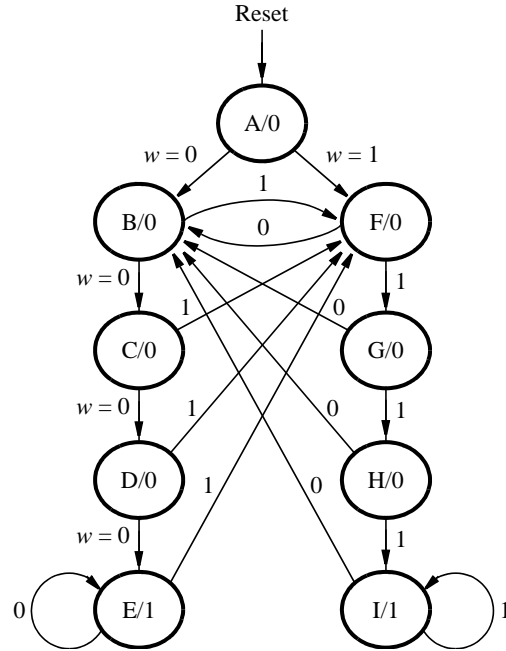

Figure 2. A state diagram for the FSM.
A state diagram for this FSM is shown in Figure 2. For this part you are to manually derive an FSM circuit that implements this state diagram, including the logic expressions that feed each of the state flip-flops. To implement the FSM use nine state flip-flops called  $y_8, \dots, y_0$  and the one-hot state assignment given in Table 1.
For this part you are to write another style of VHDL code for the FSM in Figure 2. In this version of the code you should not manually derive the logic expressions needed for each state flip-flop. Instead, describe the state table for the FSM by using a VHDL CASE statement in a PROCESS block, and use another PROCESS block to instantiate the state flip-flops. You can use a third PROCESS block or simple assignment statements to specify the output *z*.
4. To examine the circuit produced by Quartus II open the RTL Viewer tool. Double-click on the box shown in the circuit that represents the finite state machine, and determine whether the state diagram that it shows properly corresponds to the one in Figure 2. To see the state codes used for your FSM, open the **Compilation Report**, select the **Analysis and Synthesis** section of the report, and click on **State Machines**.